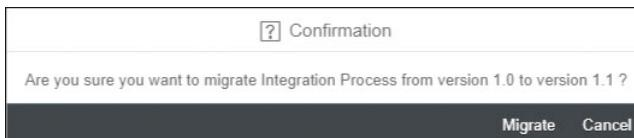

Figure 6.65 Confirmation Message
5. When you've clicked **Migrate**, a confirmation dialog shows the source and target version (Figure 6.65).